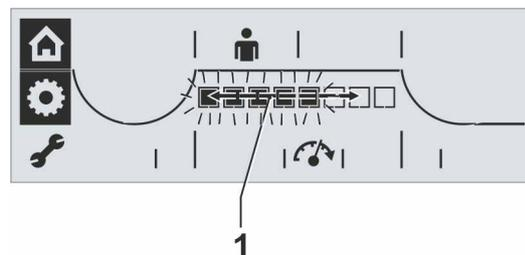

Fig. 2: Change speed/positioning time level
The scale indicates the selected level (fig. 2, item 1).